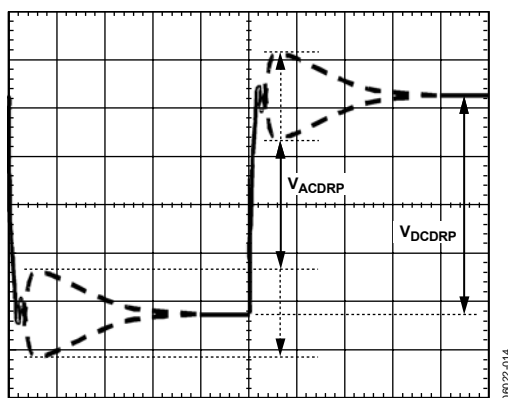

Figure 14. AC Load Line Waveform
- Measure the output waveform (if not visible, use dc offset on scope to view). Try to use a vertical scale of 100 mV/div or finer. This waveform should look similar to Figure 14.
- Use the horizontal cursors to measure  $V_{ACDRP}$  and  $V_{DCDRP}$ , as shown in Figure 14. Do not measure the undershoot or overshoot that happens immediately after this step.